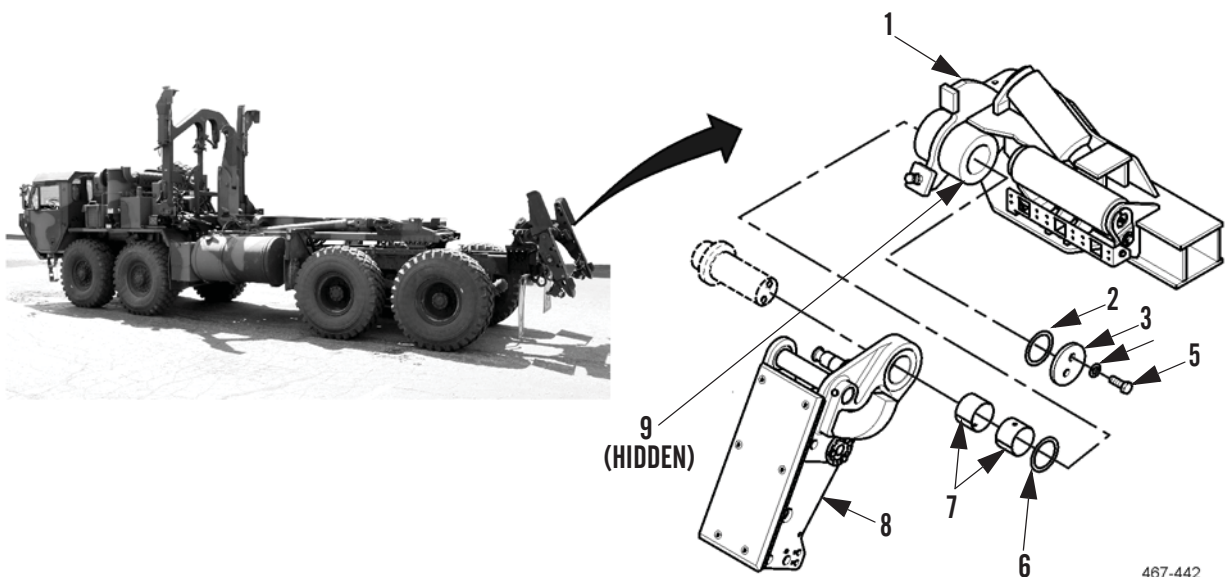

Figure 4. Rear Slider Bed Installation.
1. Attach sling and lifting device to rear slider bed (Figure 4, Item 8).
3. Install shim (Figure 4, Item 6) and two bearings (Figure 4, Item 7) in rear frame (Figure 4, Item 1).
4. Use lifting device to install rear slider bed (Figure 4, Item 8) on rear frame (Figure 4, Item 1).
5. Install shim (Figure 4, Item 2), end plate (Figure 4, Item 3), two washers (Figure 4, Item 4), and bolts (Figure 4, Item 5) on rear frame (Figure 4, Item 1).
6. Remove lifting device and sling from rear slider bed (Figure 4, Item 8).
7. Apply grease to fitting (Figure 4, Item 9).